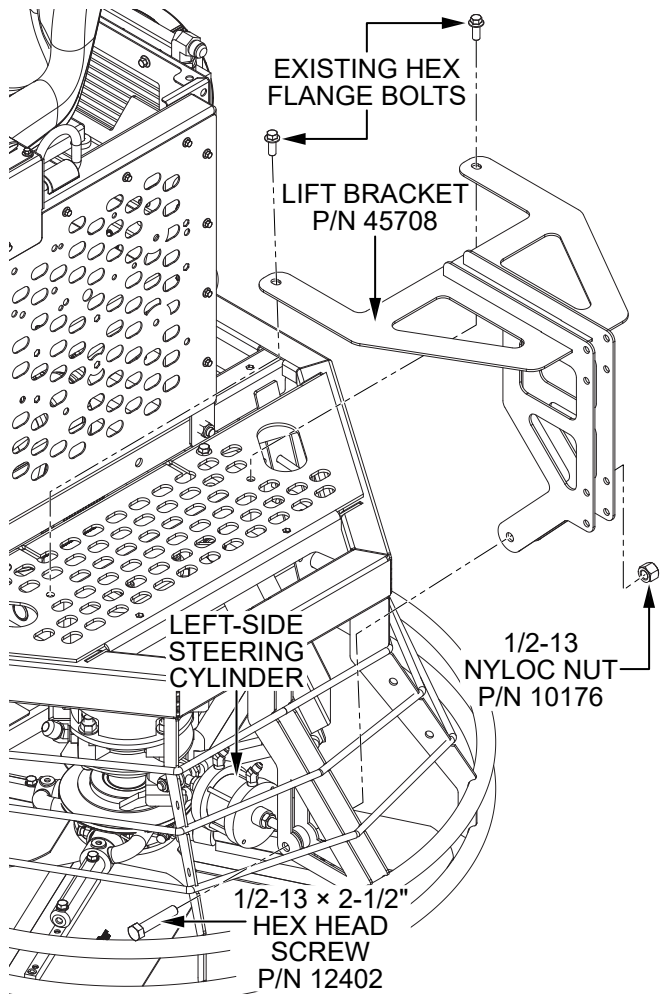

Figure 4. Install Lift Bracket
3. Secure a lift bracket (P/N 45708) to the frame and left-side steering cylinder using one 1/2-13 x 2-1/2" hex head screw (P/N 12402), one 1/2-13 nyloc nut (P/N 10176), and the two hex flange bolts that were removed earlier. See Figure 4.